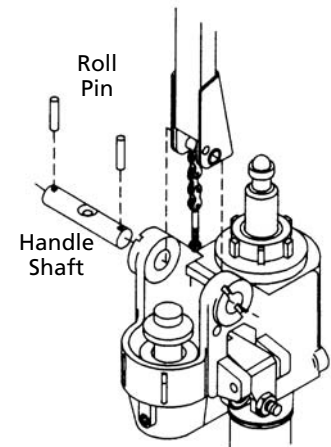

Figure 4 - Handle Assembly
1. Remove roll pin, and handle shaft from pump body (See Figure 4).